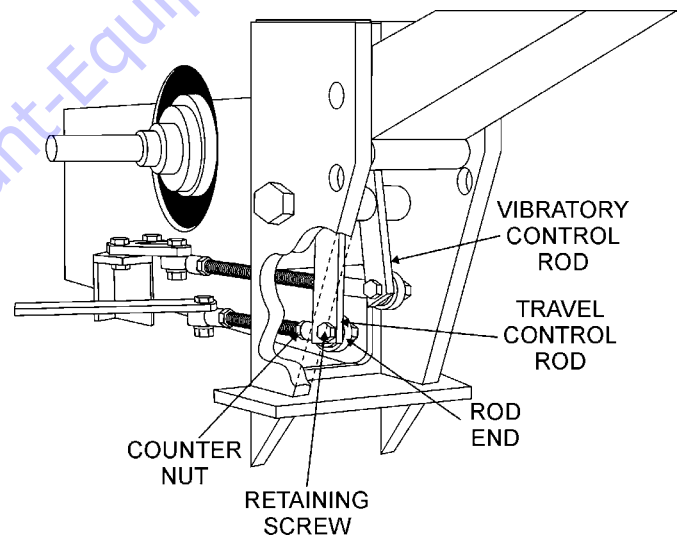

Figure 36. Travel Control Rod
3. Remove retaining screw as shown in Figure 36, then rotate the rod end to acquire desired length.